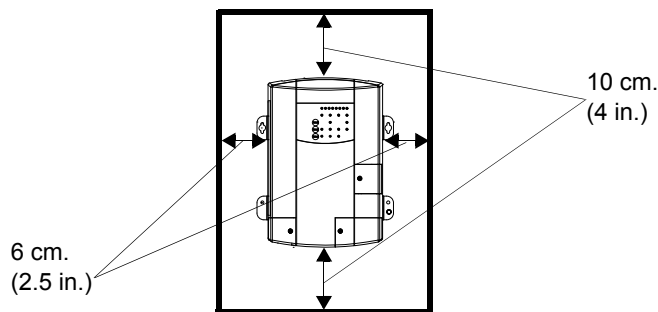

Figure 7 Ventilation Clearance
Ventilated	There must be at least 10 cm (4 in.) of clearance on the top and bottom ends of the Truecharge2 Battery Charger for air flow and at least 6 cm (2.5 in.) of clearance on either side (see Figure 7). Ventilation openings on the charger must not be obstructed. If the charger is mounted in a tight fitting compartment, the compartment must be ventilated with cut-outs to prevent the charger from overheating.
1. Select a mounting surface that is flat and allows for a minimum of 10 cm (4 in.) of clearance on the top and bottom ends for air flow and at least 6 cm (2.5 in.) of clearance on either sides (see Figure 7, “Ventilation Clearance” on page 12).